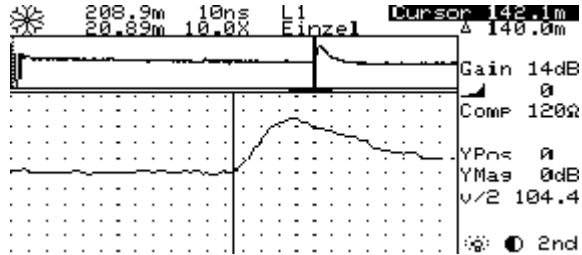

Fig 5 Type of Fault Causing a Positive Reflection
- (1) Open circuit: Open circuit means that one or both conductors of a pair of conductors are broken or have become detached. This will cause a positive reflection, see Fig 5.